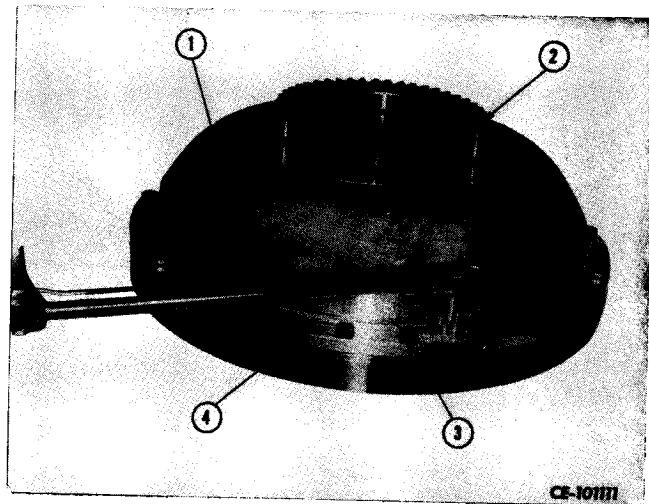

Figure 3-60
Place impeller (1, Fig. 3-60) on drive housing (4) with accessory gear (2) up. Secure assembly with cap screws (3). Tighten cap screws to recommended torque (refer to "SPECIAL TORQUES").